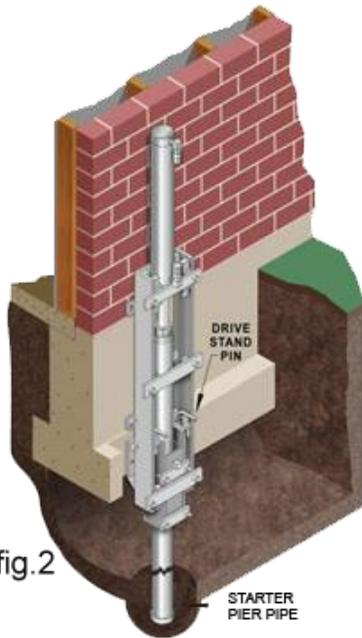

fig.2
4. Utility Bracket Attachment: The utility bracket is secured to the footing using anchor bolts. Attachment of the drive stand and the hydraulic cylinder that is used to force the pier pipe into the soil is mounted on the drive stand. (fig 2)
5. Pier Pipe Installation: The pier pipe is advanced into the soil using the structure as the reaction force with a 10,000 psi hydraulic pump and cylinder combination. The piers may be installed from outside or inside the structure. Pier installation continues until rock or suitable bearing-strata is encountered below the unstable soil near the surface. (fig 2)